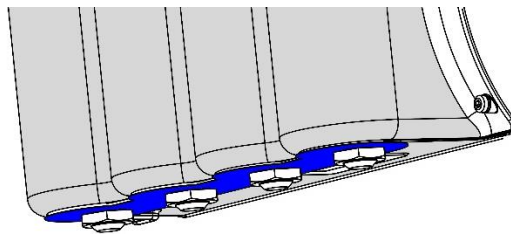
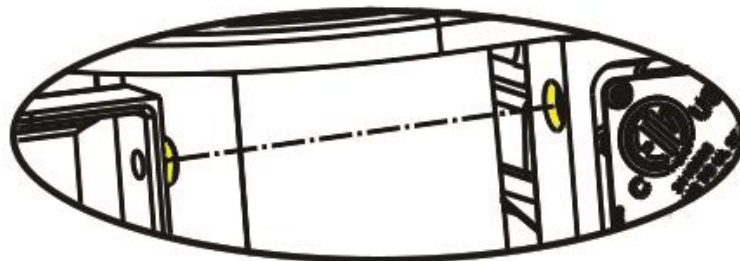

Figure 15 – Capacitor Cover Position
Figure 16 – Recessed Holes
16. Place the Capacitor Cover and loosely secure it with the M5X15 fasteners. The bottom of the cover should rest just above the Relief Membrane. Refer to Figure 15 (Capacitor Cover Position) for an illustration. Additionally, the cover should line up and sit in the recessed holes in the compressor housing. Refer to Figure 16 (Recessed Holes) for an illustration.